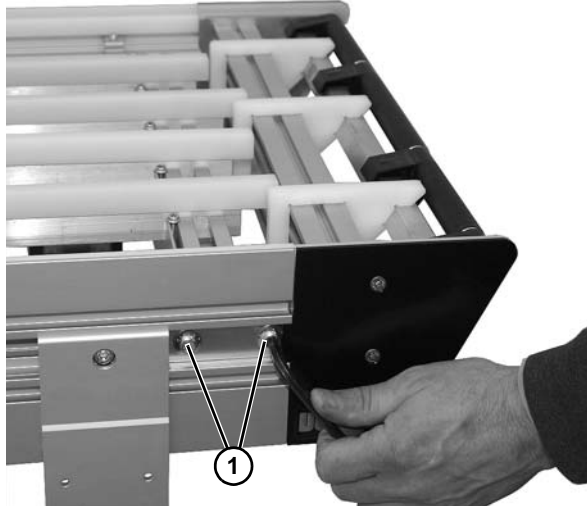

Figure 90
2. Loosen the two socket head screws (Figure 90, item 1). Repeat on opposite side.